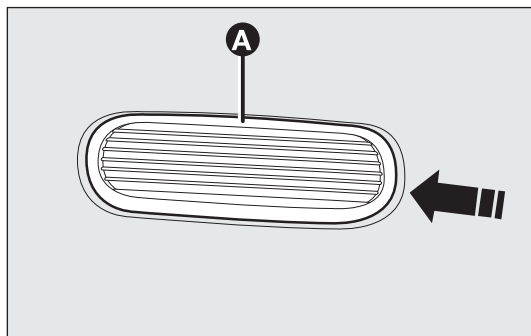

fig. 147
- ☐ push the lamp lens A-fig. 147 in the car running direction (it is pressure-fit);